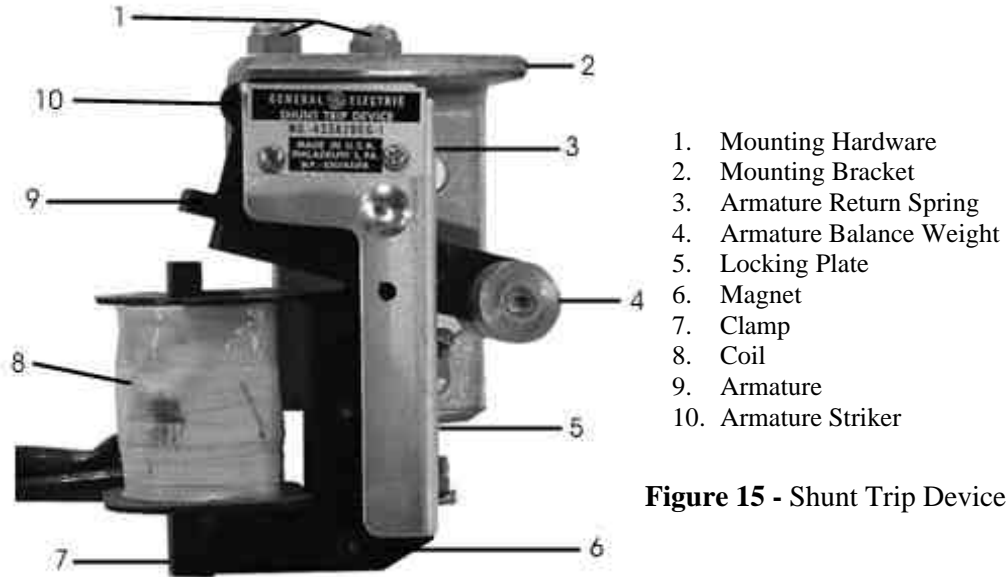

Figure 15 - Shunt Trip Device
F. Shunt Trip Device (Figure 15)